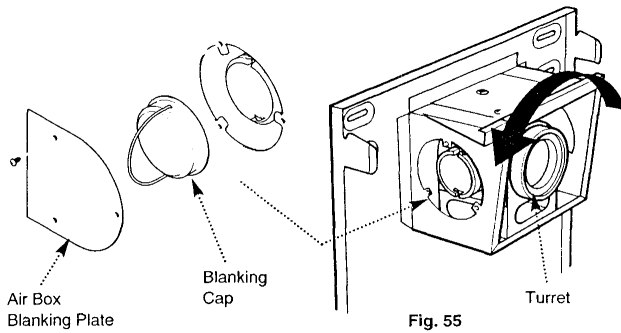

Fig. 54
1. Remove the left or right hand air box blanking plate, as appropriate, from the back plate air box by releasing the three screws (Fig. 54).
2. Rotate the turret to face the selected opening (Fig. 55) and remove the side blanking cap by pushing in and turning anti-clockwise to release the bayonet fitting (Fig. 54).